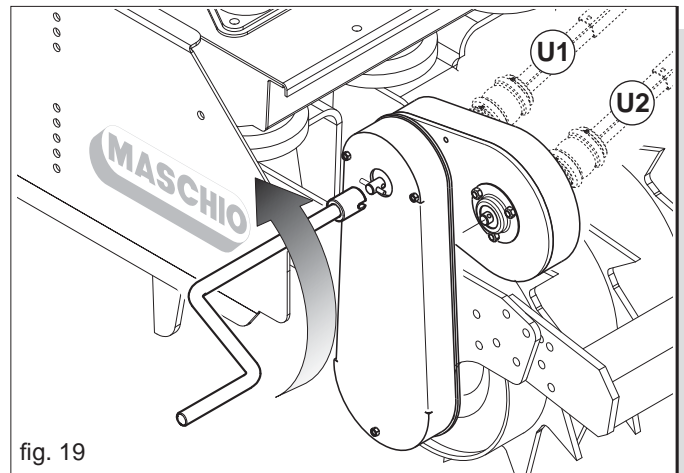

fig. 19
To allow for a wider range of seed quantity distributed per hectare (Kg/ha) a transmission with double coupling for the transmission axis has been made (U1 and U2, Fig. 19). The table shows all the adjustments that need to be made prior to starting seeding:
- Depending on the quantity to be distributed, hook the transmission cardan to position U1 or U2 (see Figure 19).
- 2) Insert the handle in the transmission shaft and turn anti-clockwise as shown by the arrow in Figure 19.
- 3) Insert the crank (Fig. 19) on the gearbox shaft and rotate clockwise.